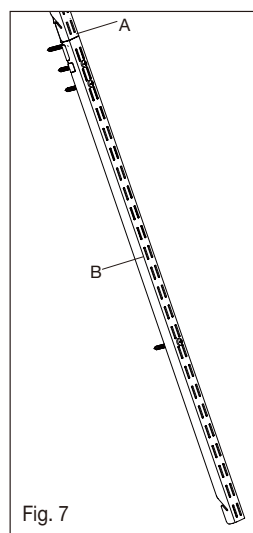

Fig. 7
- ☐ Use remaining screw holes in lower vertical rail (B) to secure to wall with appropriate hardware, just as you did for upper vertical rail (A) installation (see Fig. 7).
- ☐ Use provided spacer (P) to line up the next lower vertical rail. It is **CRITICAL** to install vertical rails at the correct spacing using spacer (P) for the system to work.